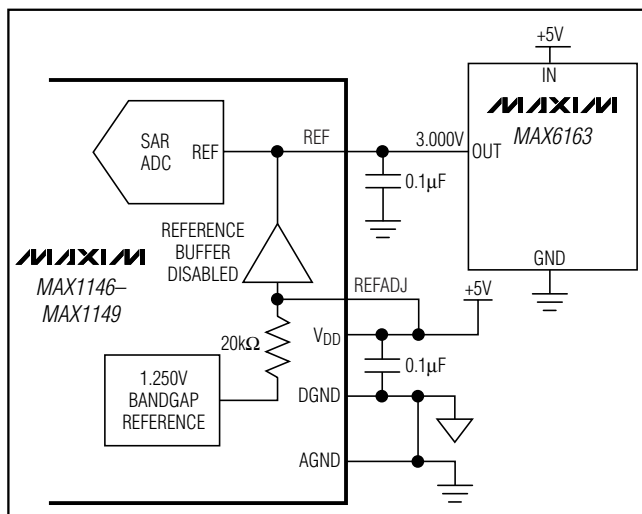

Figure 12. External Reference Applied to REF
- 1) Disable the internal reference buffer by connecting  $\text{REFADJ}$  to  $\text{V}_{\text{DD}}$  and apply the external reference to REF (Figure 12).